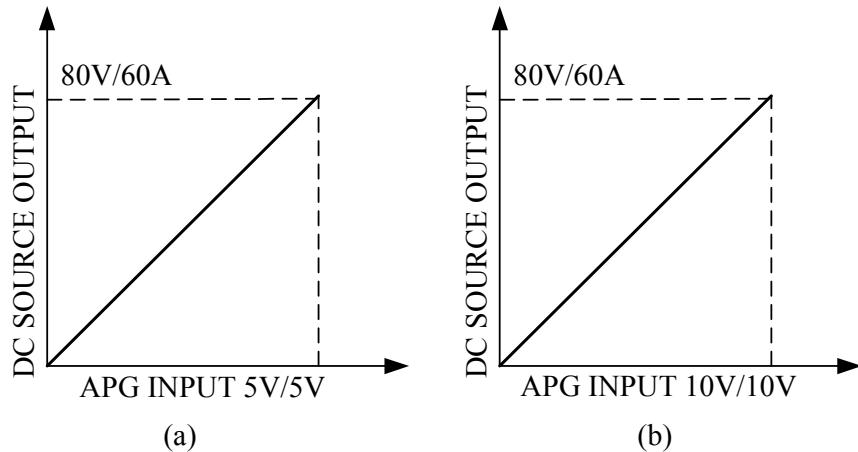

Figure 3-8
- a. When selecting Vref=5V, the DC Power Supply's output 0V/0A-80V/60A will map to 0-5V (programming or measurement) as shown in Figure 3-8(a).
measurement) as shown in Figure 3-8(b).